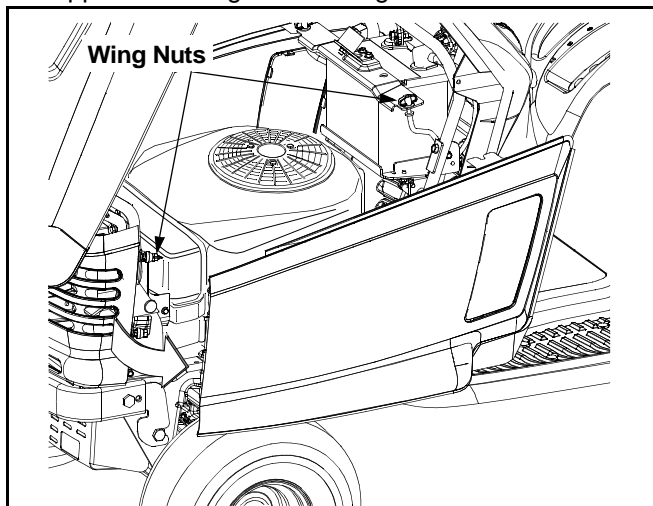

Figure 17
- Loosen, but do not remove, the rear wing nut and upper front wing nut. See Figure 17.